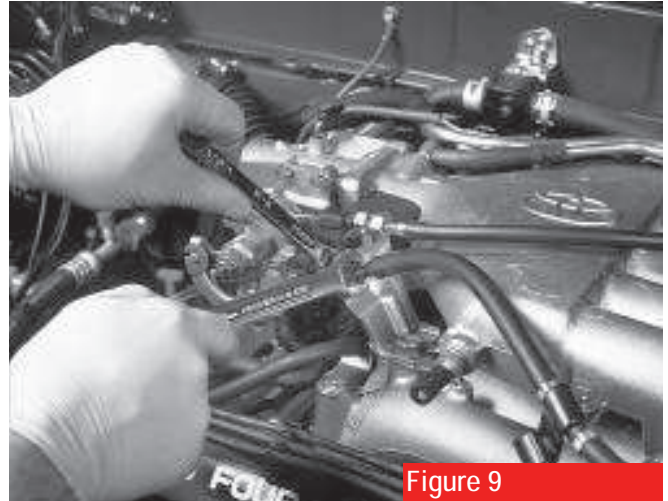

Figure 9
12. Loosen but **don't remove** the cable nuts (**figure 9**). Slide the cables from their brackets and remove the cable ends from the throttle-body levers.